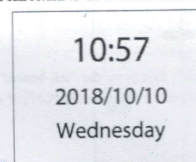

Figure 8. Clock interface
- In the measure interface, press the "right button" can enter the clock interface of Figure 8. Press the "right button" again can return to the measure interface.